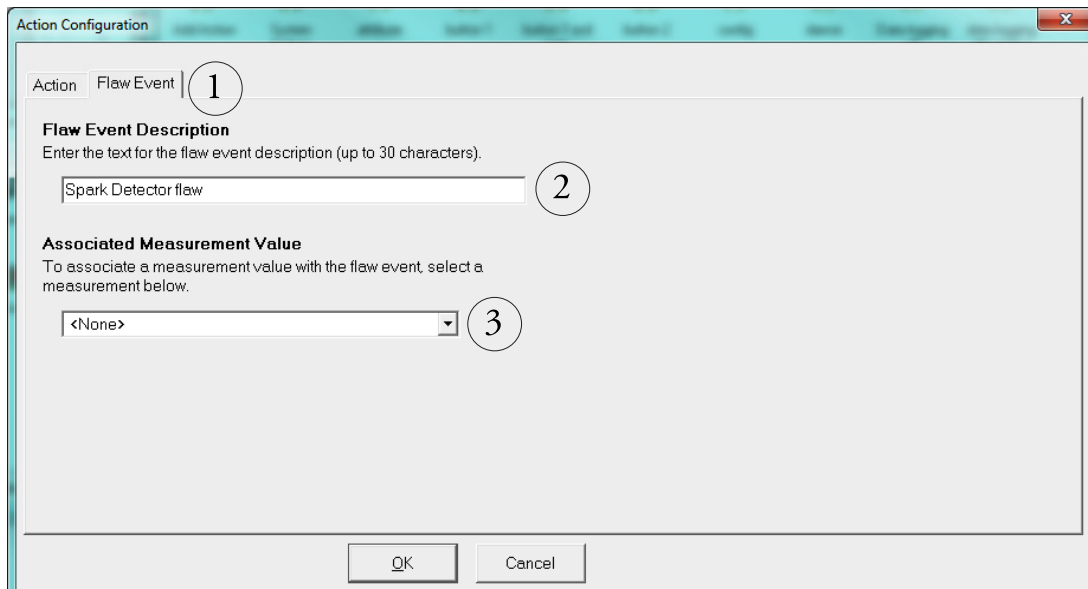

Figure 35. Flaw Detection Event.
- 1.2 Select the Flaw Event tab (*Part 1 in Figure 35*).
- 1.3 In the box for Flaw Event Description, enter your desired text (*Part 2 in Figure 35*).
- 1.4 If you want a measurement value to show up in the flaw report next to your triggered flaw event, select it from the drop-down list under Associated Measurement Value (*Part 3 in Figure 35*).